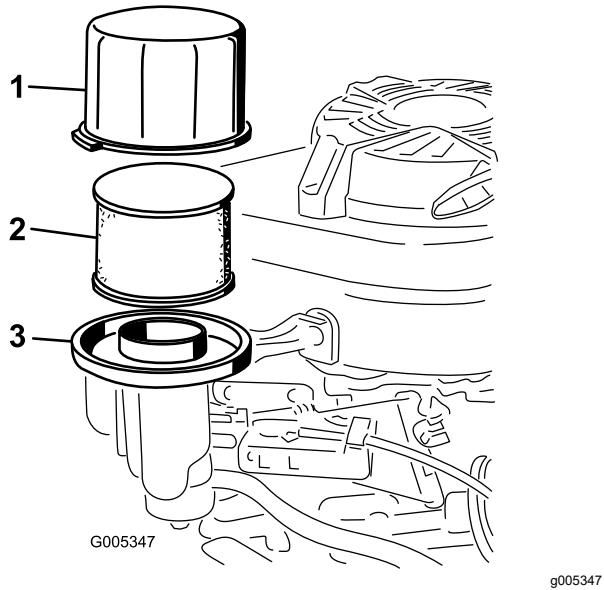

Figure 21
3. Remove the cover and clean it thoroughly (Figure 21).
4. Remove and the foam pre-filter and the paper-air filter from the air-filter base (Figure 21).